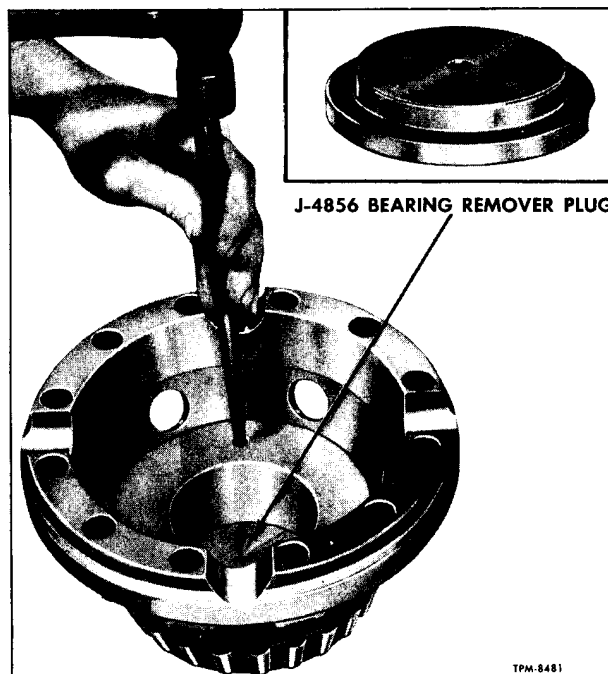

Figure 5—Differential Bearing Removal
2. Remove lock wire and nuts (5) from bolts (47) which hold the two halves of differential case (2) together; then separate halves of case.
3. Remove side gears (13), thrust washers (12), spider (3), pinions (46), and thrust washers (4) from differential case.
4. Using differential bearing remover plug (J-4856) as shown in figure 5, drive bearing evenly off each differential case half, using a long punch and hammer as illustrated.
6. If either drive gear (1) or drive pinion (36) are worn or damaged, both must be replaced as a matched set. Never replace drive pinion or drive gear separately.